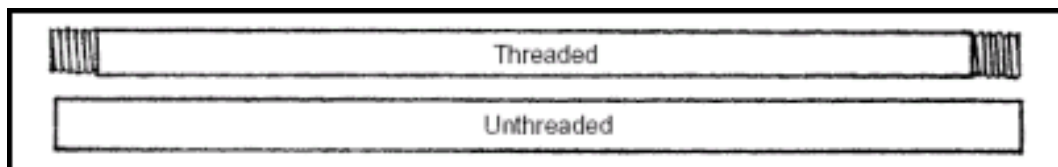

Figure 6-19. Galvanized-Steel/Iron Pipe
6-46. This pipe comes in three strengths: (1) standard, (2) extra strong, and (3) double extra strong. The definitions Schedule 40 and Schedule 80 also describe pipe strengths. Schedule 40 standard is most commonly used in plumbing. Pipe diameter sizes (nominal pipe sizes) are 1/8 inch to 12 inches, also referred to as iron-pipe size. The pipe comes in 21-foot lengths, threaded or unthreaded (Figure 6-19).